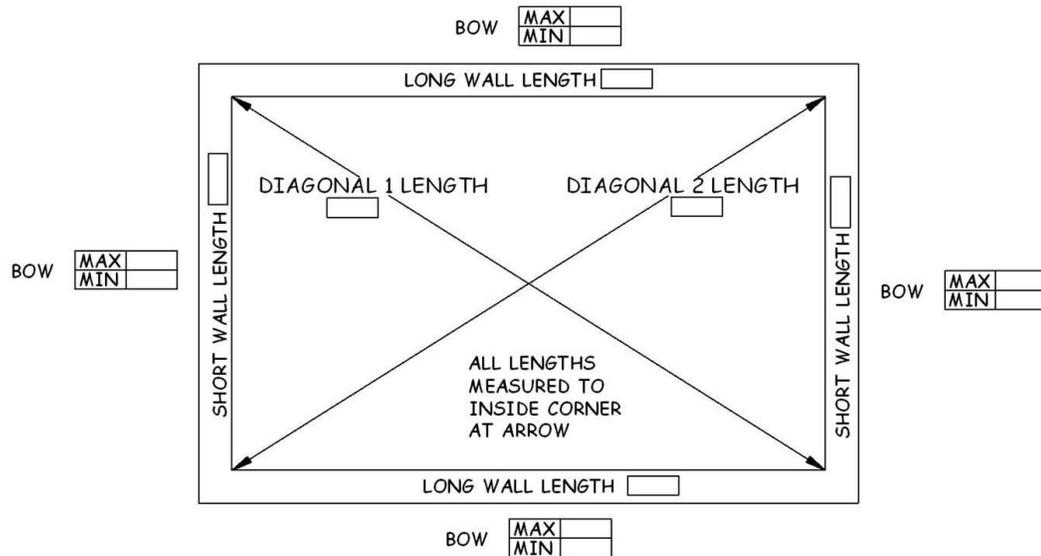

Figure 3-2. Wall Layout Diagram.
3. **Create a Rectangle.** With a long steel tape, “burn a foot” and measure the lengths (between string lines) of the opposite walls at each end (see Figure 3-2). Record the measurements on the Wall Layout Worksheet (copy available in the Construction Binder). If opposite wall lengths differ by ⅛” OR MORE, adjust the string lines using additional 8d nails to equalize the lengths by adding one-half the difference at each end of the shorter wall.